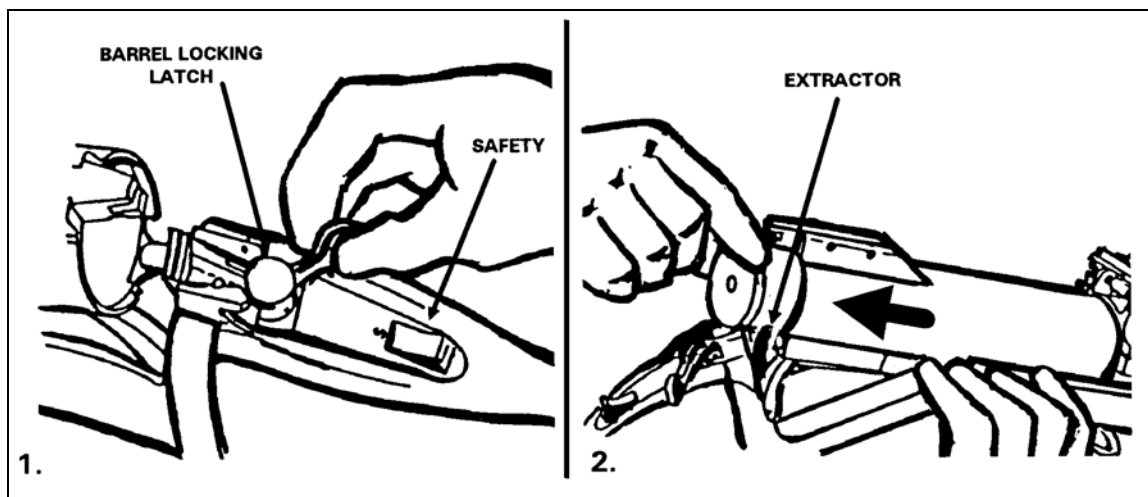

Figure A-14. Unloading the grenade launcher.
b. **Unloading.** To unload the weapon (Figure A-14)--
- (1) Place the weapon on safe by moving the barrel locking latch as far right as possible.
- (2) If the cartridge case is partially extracted, remove the cartridge case. If the cartridge case is not partially extracted, engage the extractor tang and pull it rearward.
- (3) Grasp the cartridge case and remove it.